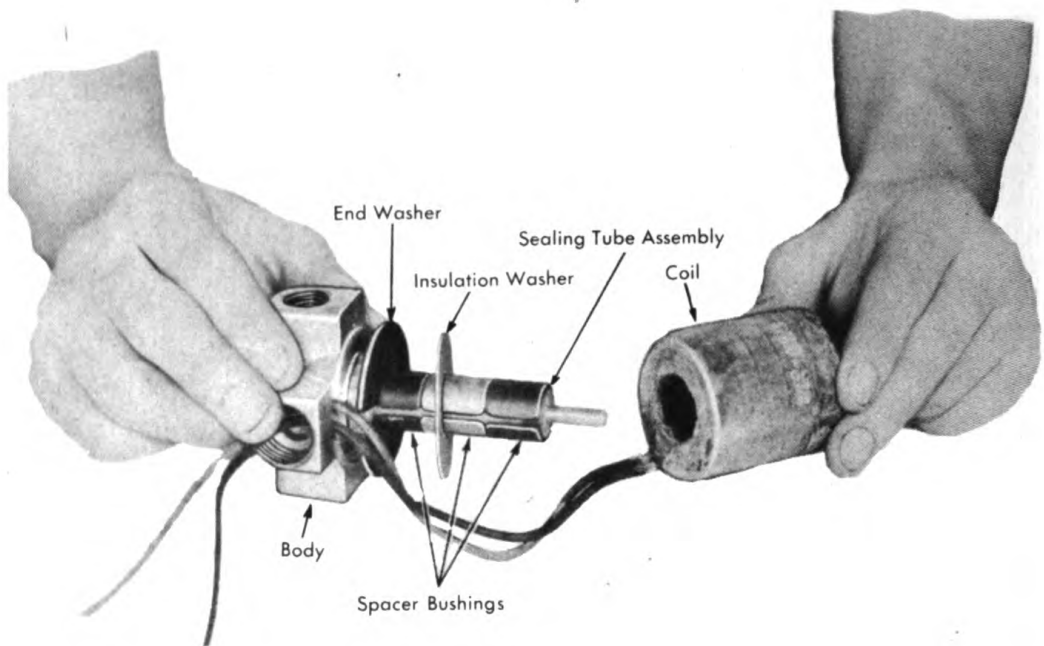

Figure 271. Removing Coil from Sealing Tube.
B. Loosen coil retaining nut and twist the coil slowly to free it from the sealing tube. See Figure 271.
C. Install coil and retaining nut (see Figure 271) and replace cover, name plate, and nut.